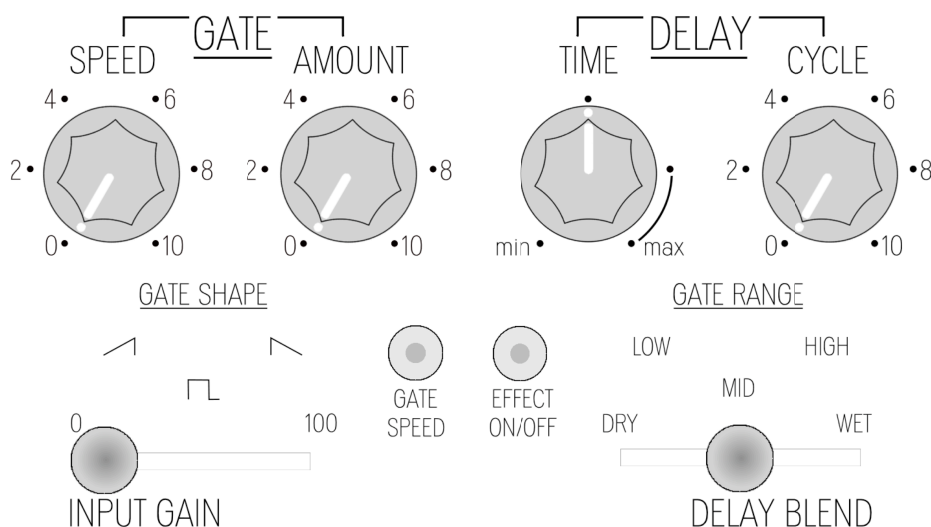

Fig.1 Frontpanel Features
- 3) **Set up the BD101 / Amp:** Set all the controls of the BD101 as in *Fig. 1*, see next page.